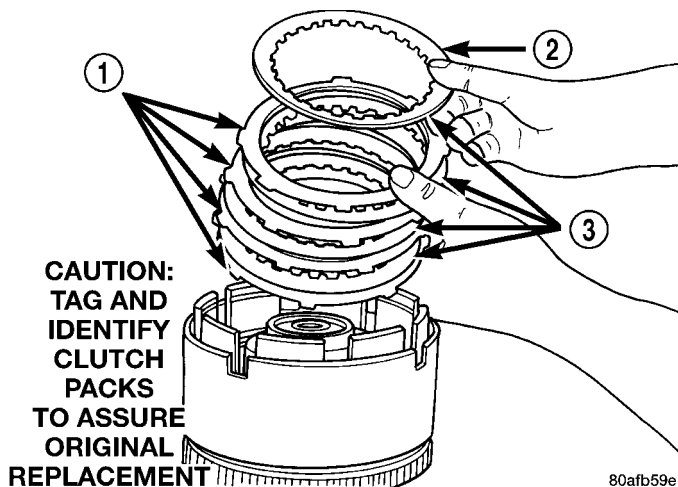

Fig. 250 Underdrive Clutch Pack
(10) Install the UD clutch pack. Leave out upper disc, until snap ring is installed (Fig. 250).